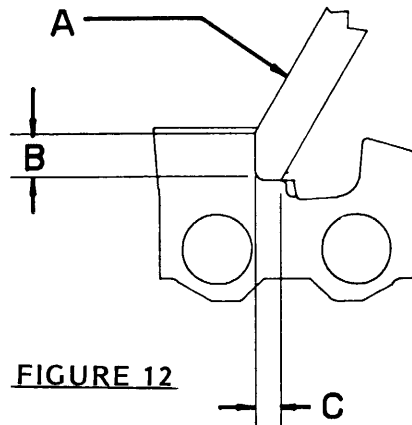

FIGURE 12
14. Dress the GRINDING WHEEL. This is one of the most important steps in chain grinding, as the form or shape of the grinding surface of the wheel determines the cutting angles of the chain. (See Figure 12.) READ THIS ENTIRE STEP BEFORE DRESSING THE WHEEL!